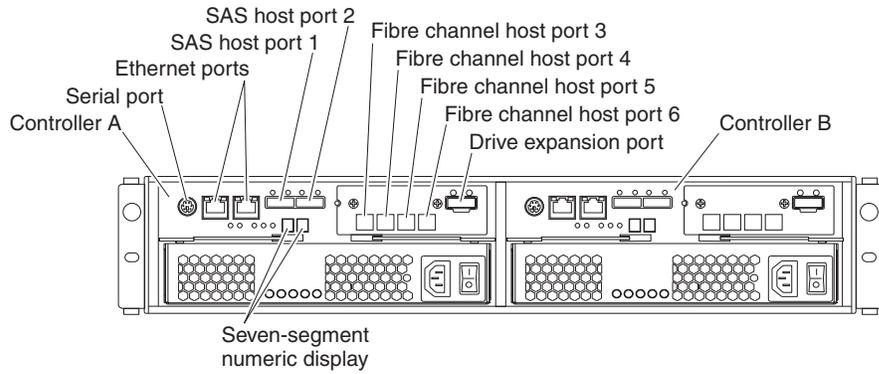

Figure 48. Location of host connectors on RAID controllers
2. Connect the Fibre Channel cables to the SFP modules in the RAID controller host ports and to either the SFP modules in the Fibre Channel switch or the optical interface connector on the host bus adapters. Figure 48 on page 54 shows the location on the RAID controllers of the storage subsystem ports where the host-system cables connect.